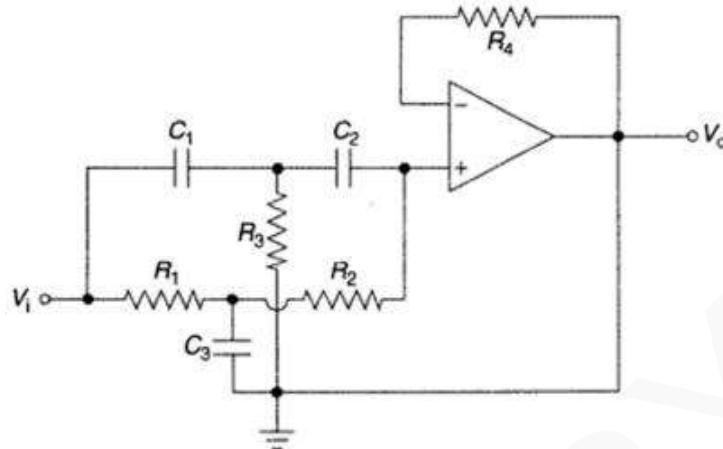

Figure 17.59: Second-order band-reject filter
- Here is how it works (Figure 17.59):